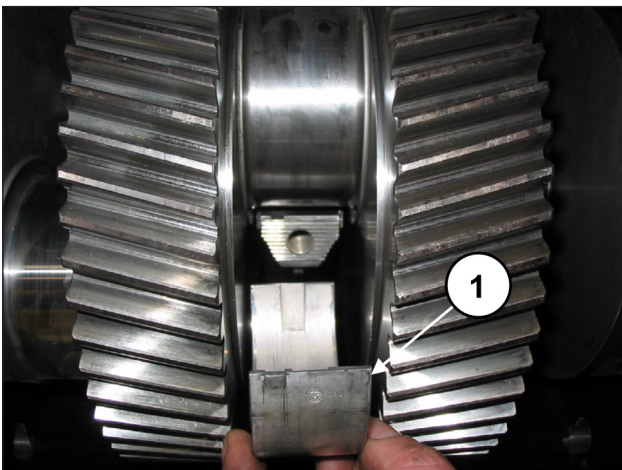

Fig. 80
Insert the upper half-bearings between the con-rods and the bend shaft (pos. ①, Fig. 80).